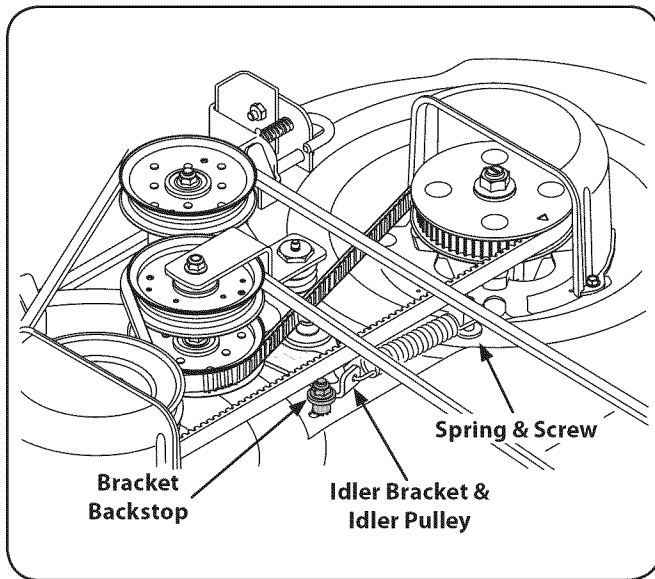

Figure 7-5
3. Remove the hex screw, flat washer, lock washer, shoulder spacer, and flange lock nut that make up the idler bracket backstop. See Fig. 7-5.
NOTE: It may be necessary to clean the underside of the mowing deck to access the hex screw. Refer to Fig. 7-5.
4. Applying force to either the timing belt idler pulley or the timing belt idler bracket, pivot and hold the idler bracket against the spring tension just far enough to allow lifting the timing belt off and above the idler pulley. Carefully release the idler bracket. See Fig. 7-5.
6. Repeat the above procedure to remove the belt from the left hand spindle assembly timing pulley. Refer to Fig. 7-5.
7. Loop the new timing belt and maneuver the belt between the drive pulley on top of the right hand spindle assembly and the spindle cover. Lower the belt until loosely around the right hand timing pulley. Refer to Figure 7-5.
1. Remove the deck from the tractor. Remove the idler bracket backstop. Refer to Figure 7-5.